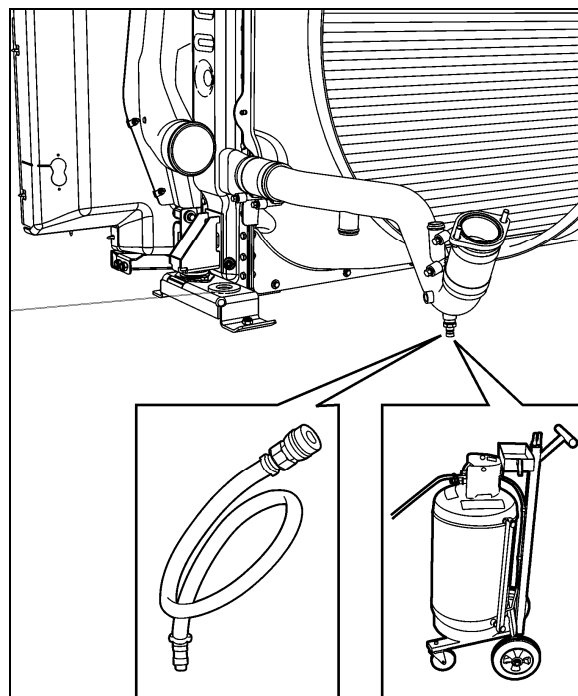

FIGURE 7: EXTRACTING COOLANT
5. Connect coolant extractor (Fig. 7). Use coolant extractor to drain the coolant from the engine. An alternate method is to drain the coolant into a suitable container using the drain hose.